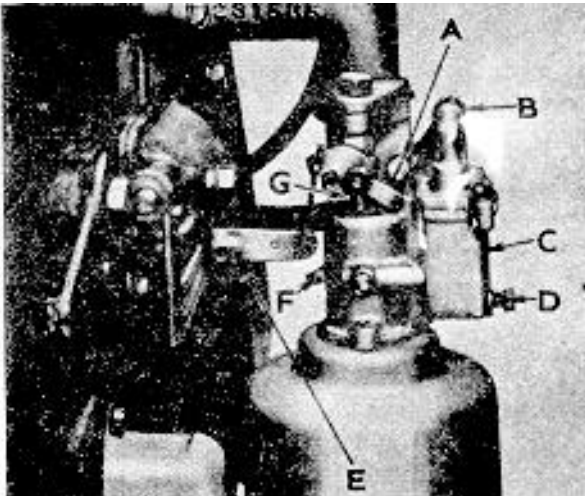

Figure 4
- a. Turn high speed adjustment screw (D, Fig. 4) counter-clockwise two turns from closed position and start engine.
- f. Idle adjustment screw (A, Fig. 4) adjustments should be made at the same time as high speed adjustment screw adjustments, as each effects the other.
- d. Remove idle mixture screw ("A", figure 4) and high speed adjustment screw ("D", figure 4) and springs. Do not remove choke valve and shaft unless replacement of these parts is necessary
- g. Install high speed adjustment screw ("D" figure 4.) Turn in until screw seats in nozzle and back out two turns.
- h. Install idle mixture screw ("A", figure 4.) Back out approximately 1/2 turns after seating lightly against jet.